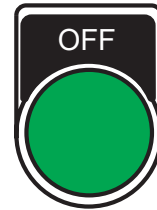

Figure 51. Main Circuit Breaker OFF Lamp (ON)
5. Verify that the **Main Circuit Breaker OFF lamp** (Figure 51) is lit (**ON**).